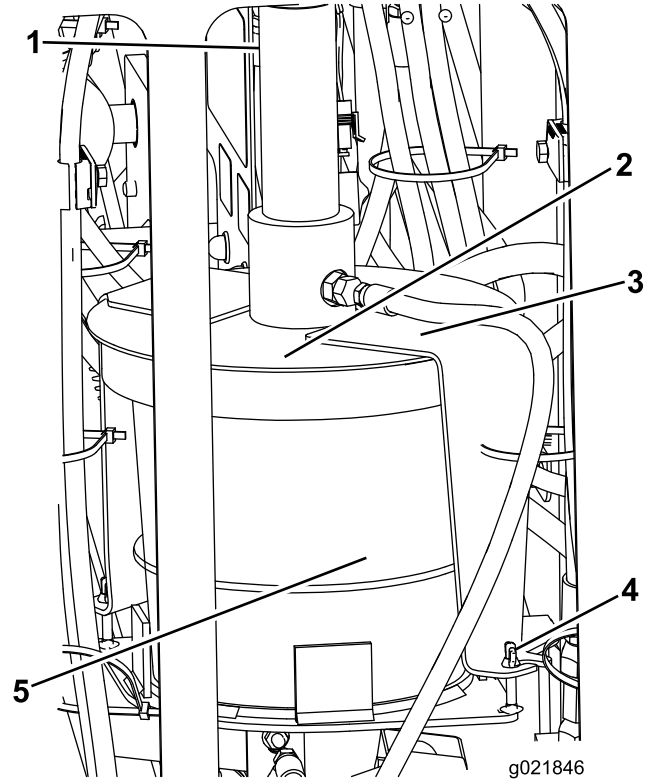

Figure 93
3. Loosen the wing nuts securing the cover straps to the machine (Figure 93).
4. Rotate the cover and pull the cover straps off the retaining bolts (Figure 93).
5. Lift the cover assembly off and out of the empty thread-joint-compound bucket (Figure 93).
7. Place the plunger into the new bucket and lower the cover assembly onto the bucket (Figure 93).
8. Slide the cover straps over the retaining bolts and rotate the cover to seat the straps on the bolts (Figure 93).